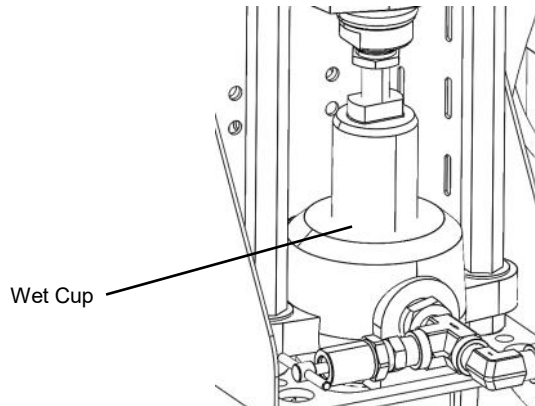

Figure 1
2. Fill coating pump wet cup with throat seal liquid (Fig 1.)